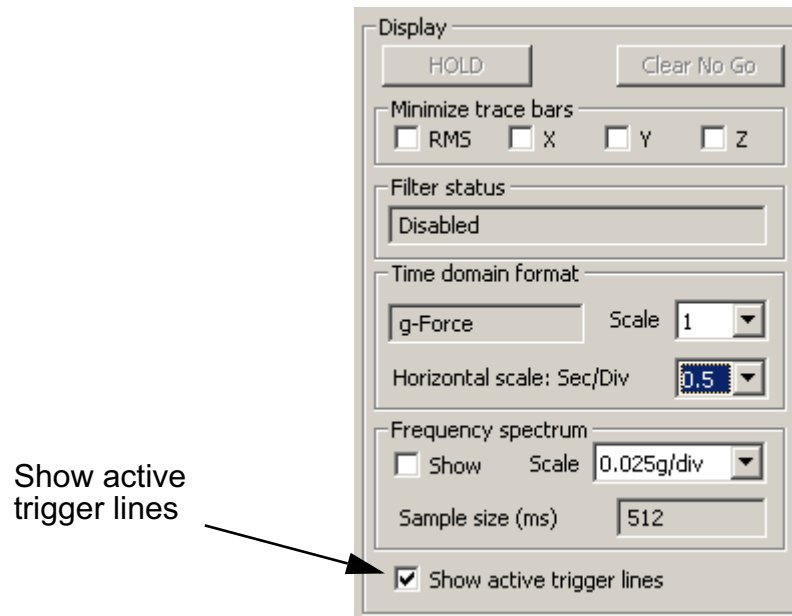

Figure 3.32: Displaying Triggers
- To show active trigger lines on the display, check the box for **Show active trigger lines** (see Figure 3.32 on page 3.41).